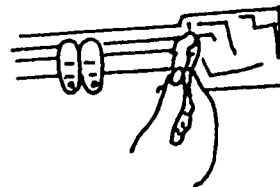

Figure 62.
1. Insert the master slides through end pulley gates on the back of the rod (see Figure 62). Some types may snap onto the back of the rod.